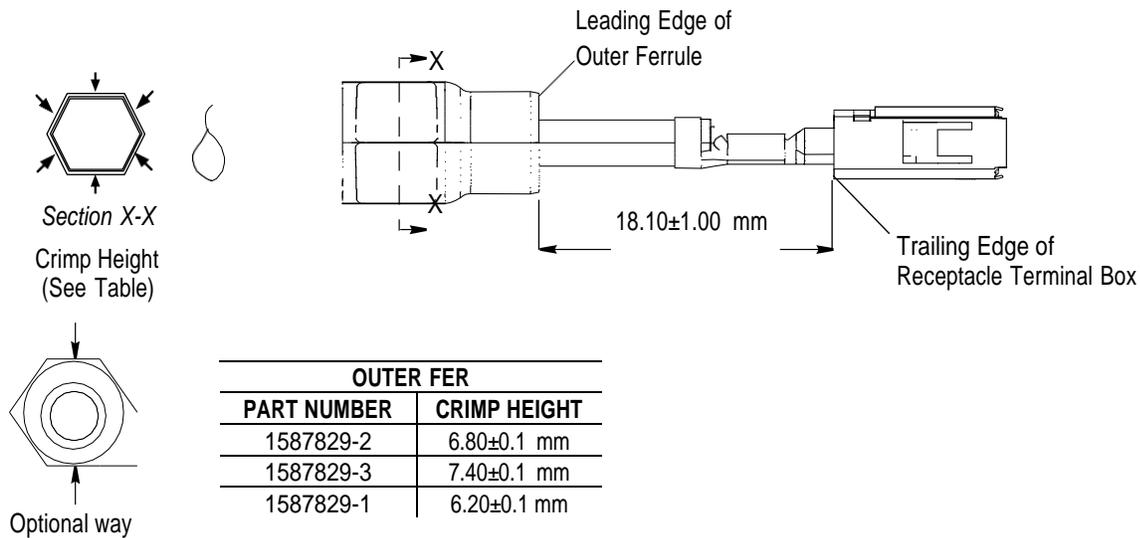

Figure 11
While these steps provide a logical procedural flow to complete this assembly, the order of operations maybe changed as needed as long as the dimensional specification between the terminal and the ferrule shown in Figure 11 ( $18.10 \pm 1$  mm) is not violated and ferrule retention meets all the USCAR 37 acceptance criteria.
9. Crimp each outer ferrule using the tooling specified in Section 5. Using a blade micrometer, measure each outer ferrule crimp at 3 places: one on top and one on each opposing side. The crimp height must meet the dimension given. Use the lowest measurement as the passing criteria. The crimp height is shown in Figure 11. An optional way is to do one measurement in vertical or operating direction of the crimp tool as the other representation of Figure 11.
The distance between the leading edge of the outer ferrule and trailing edge of the receptacle terminal box must be maintained at the dimension given in Figure 11.